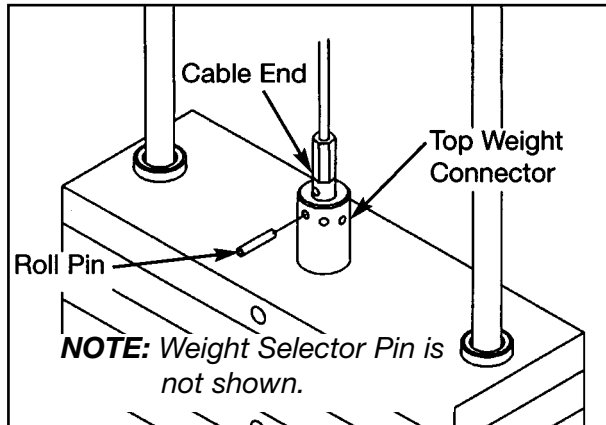

Figure 2
14. Using a hammer, drive roll pin through top weight cable connector holes and cable fitting. Assure pin is flush with top weight connector. See Figure 2.